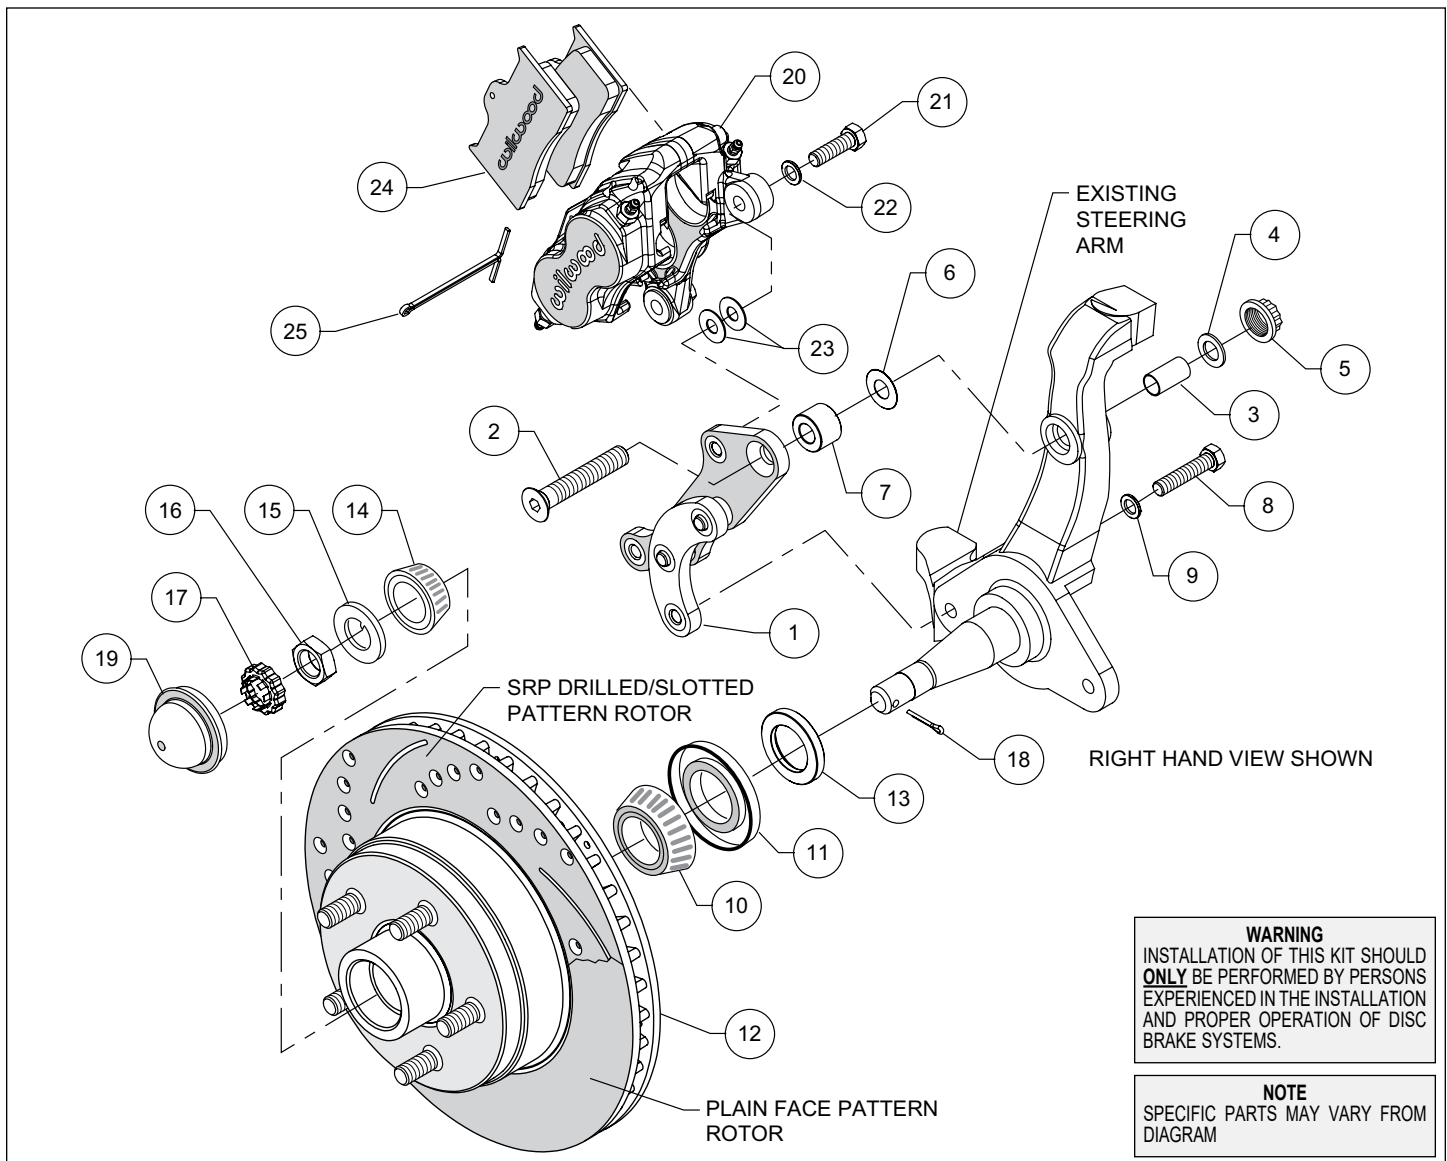
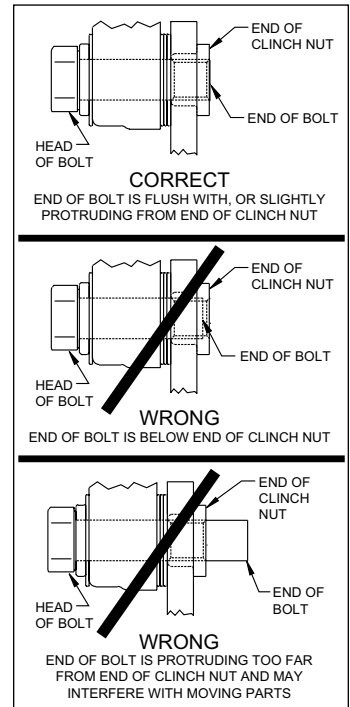

Figure 1. Typical Installation Configuration
Figure 3. Clinch Nut Engagement Diagram
Assembly Instructions (numbers in parenthesis refer to the parts list and Figure 1 on the preceding pages): **CAUTION: All mounting bolts must fully engage clinch nuts.** Be sure to check that all bolts are either flush or protruding through flanged side of clinch nut after shimming, Figure 3.
- The caliper bracket (1) should initially be installed with clean, dry threads on the mounting bolts. The bracket has been assembled at the factory for alignment purposes. Loosen the two bolts that secure the brackets together so that the bolts are hand tight only. This will enable the bracket assembly to be adjusted to accommodate various spindle tolerances during assembly. Insert sleeve (3) into top mounting hole on the spindle, Figure 1. Orient the bracket as shown in Figure 1 and install using bolt (2), washer (4), locknut (5), in the upper hole. Place a .711" thick spacer (7) positioned between the bracket and spindle, as shown in Figure 1 and Photo 1. Initially use one .032" thick shim (6) on the upper bolt between the bracket and spindle, Figure 1. Install bolt (8) and washer (9) in the lower hole, Figure 1. Temporarily tighten the mounting bolts, followed by the two bracket-to-bracket bolts. **NOTE: The bracket must fit squarely against the mounting points on the spindle.** Inspect for interference from casting irregularities, machining ridges, burrs, etc. Later, after the bracket alignment has been checked, the bolts will be secured using red *Loctite*® 271.
- Pack the large inner bearing cone (10) with high temperature disc brake bearing grease (available from your local auto parts store) and install into the backside of the hub (12), Photo 2.
- Install the grease seal (11) by pressing into the backside of the hub (12), flush with the end of the hub.
- Slide the hub/rotor spindle spacer (13) onto the spindle. Ensure the chamfered I.D. faces inward, Photo 3.
- Temporarily install the hub/rotor (12) onto the spindle. Check that the caliper mounting bracket (1) is aligned parallel to the rotor, Photo 4. If not, adjust by adding or subtracting shims (6) on the upper bolt between spacer and spindle, Figure 1. Once the bracket alignment is correct, torque the upper bolt locknut to 65 ft-lb. Remove the lower bolt, apply red *Loctite*® 271 to the threads, and torque to 40 ft-lb. Remove one at a time the bolts that secure the bracket assembly to each other, apply red *Loctite*® 271 to the threads and torque to 40 ft-lb.
- Press the dust cap (19) into the hub (12), Photo 6.
- NOTE:** Please reference the caution statement at the beginning of the assembly instructions. Mount the caliper (20) onto the caliper mounting bracket (1) using bolts (21) and washers (22), as shown in Figure 1. Initially place two .035" thick shims (23) on each bolt between the caliper and the bracket, Photo 7. Temporarily tighten the mounting bolts and view the rotor (12) through the top opening of the caliper. The rotor should be centered in the caliper, Photo 8. If not, adjust by adding or subtracting shims between the bracket and the caliper. Always use the same amount of shims on each of the two mounting bolts. **NOTE:** The end of each bolt must be flush with or slightly protruding from the head of the clinch nut, as shown in Figure 3. If necessary place spare shims between washer (22) and caliper mounting ear to achieve the proper clinch nut engagement. Once the caliper alignment and clinch nut engagement are correct, remove the bolts one at a time, apply red Loctite® 271 to the threads, and torque to 40 ft-lb.